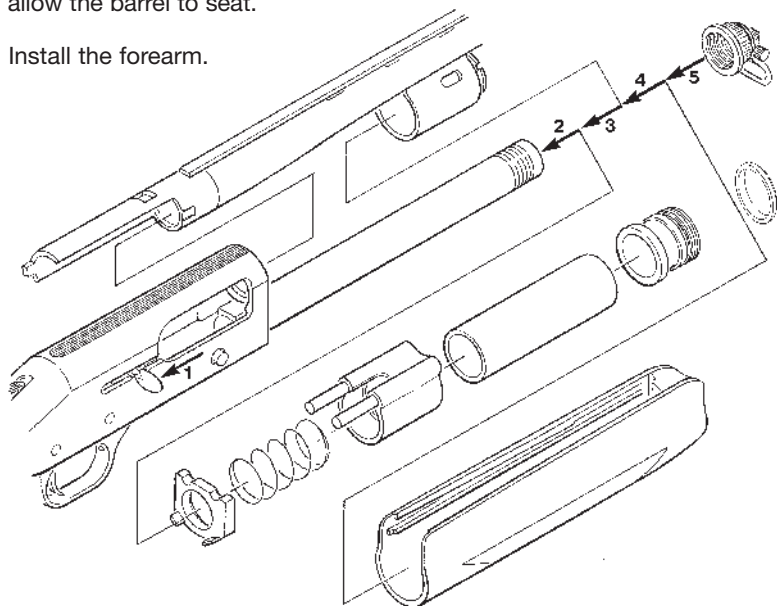

Figure 15
The gas system includes the magazine tube, seal ring\*, gas piston, spacer tube, gas system return spring, and gas cylinder portion of the barrel (Figure 15). These parts should be thoroughly cleaned using solvent. A stiff brass bristle brush is useful for removing stubborn deposits.
1. Grasp the operating handle and lock the action in the “OPEN” position (Figure 15).
When interchanging barrels (combo models) or reinstalling the original barrel onto the firearm, YOU MUST ensure that the gas piston and seal ring\* are present on the magazine tube prior to installing the barrel (see Figure 15). If the gas piston and seal ring\* are not present on the magazine tube, remove them from the gas cylinder portion of the barrel that was on the firearm previously and place them onto the magazine tube as shown in Figure 15. Failure to do so may result in a dangerous malfunction, damage to the firearm and injury to the shooter and other persons. The firearm's owner must accept full responsibility for the correct reassembly and functioning of the firearm after any disassembly or replacement of parts.